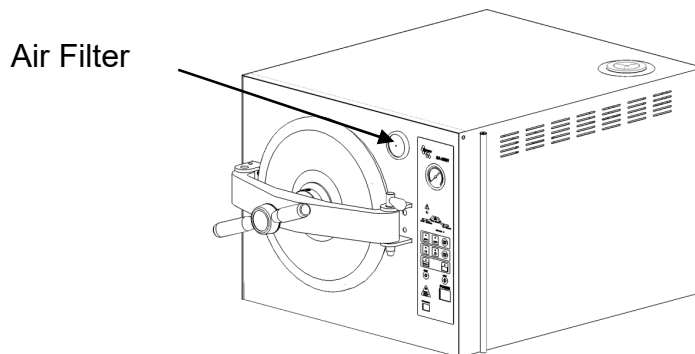

Figure 31
- Check the air filter (see “Figure 31”) and replace with a new one if the color shown dark gray.